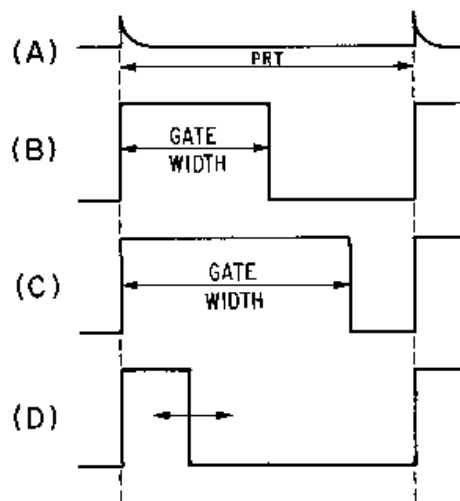

Figure 3-16.—Monostable multivibrator waveforms with a variable gate.
Note that R_3 is variable to allow adjustment of the gate width. Increasing R_3 increases the discharge time for C_1 which increases the cutoff time for Q_2 . Increasing the value of R_3 widens the gate. To decrease the gate width, decrease the value of R_3 . Figure 3-16 shows the relationships between the trigger and the output signal. View (A) of the figure shows the input trigger; views (B) and (C) show the different gate widths made available by R_3 . Although the durations of the gates are different, the duration of the complete cycle remains the same as the pulse repetition time of the triggers. View (D) of the figure illustrates that the trailing edge of the positive alternation is variable.